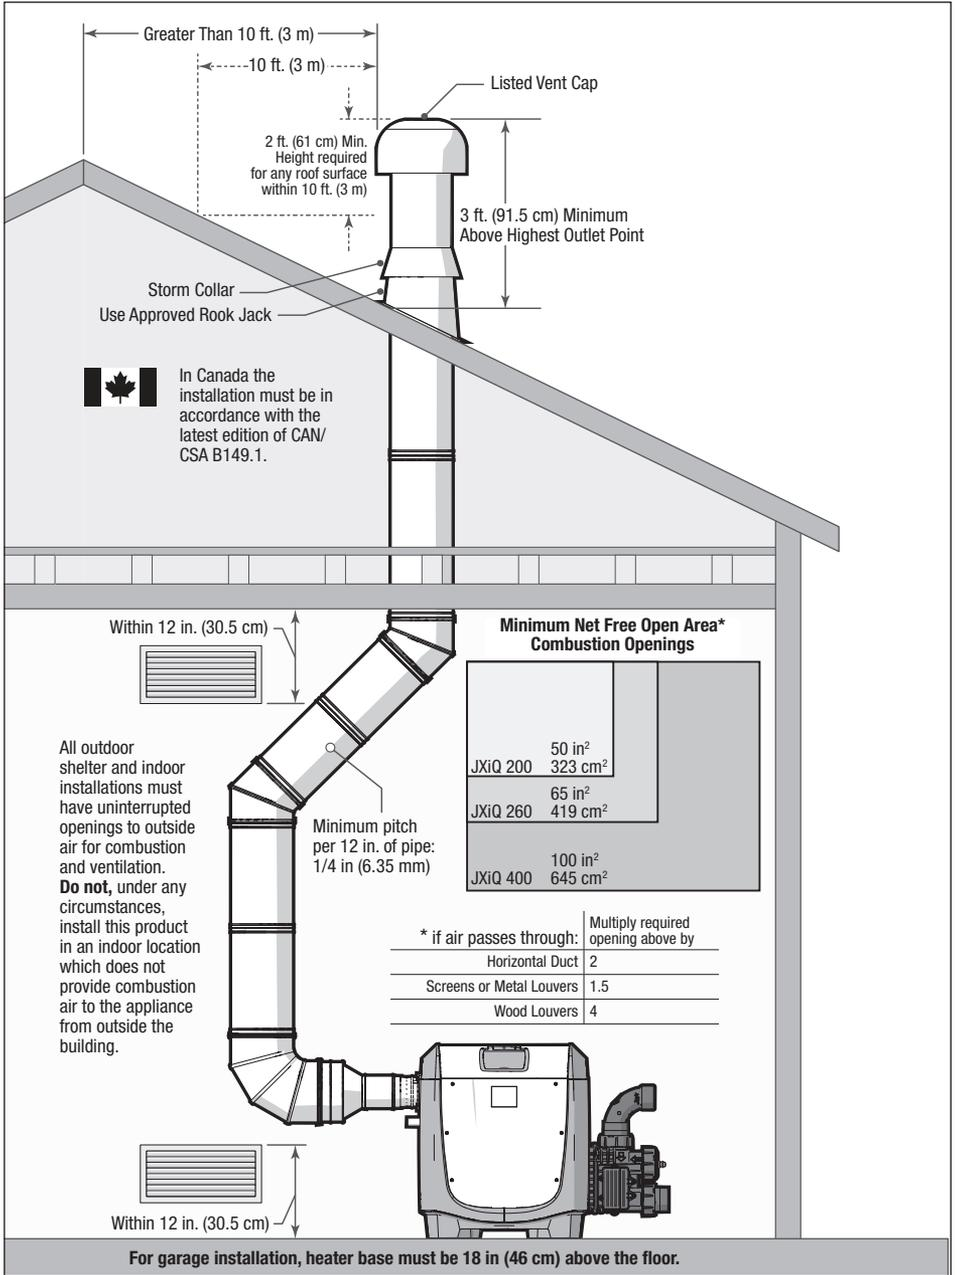

Figure 4. Indoor and Outdoor Shelter Installation
When combustion air is supplied directly through an outside wall, each opening should have a minimum free area of 1 square inch per 4,000 BTU/h (1.2 kW) input of the total input rating of all appliances in the enclosed area. If combustion air must pass through horizontal ducts, each opening should have a minimum free area of 1 square inch per 2,000 BTU/h (1.2 kW) input of the total input rating of all appliances in the enclosed area. Details can be found in *Figure 4*.
The “Minimum Net Free Open Area” information from *Figure 4* is not applicable in installations where exhaust fans or blowers of any type are used. Any equipment which exhausts air from the room where the heater is installed can deplete the combustion air supply which could lead to poor combustion, decreased heater efficiency and reliability and increased emissions. This could cause flue products to accumulate in the room. Additional air must be supplied to compensate for such exhaust. Consult a professional engineer to ensure that installations where exhaust fans or blowers are used are designed and installed in accordance with all applicable local and national installation codes.
- Horizontal runs must be sloped upwards away from the heater to a vent terminal at a minimum of 1/4 in per horizontal foot (2 cm/m). See *Figure 4*.
Category I: Appliance must be vented vertically and terminate at the roof. Vent must terminate at least 2 feet (610 mm) above any objects within 10 feet (3.05 m). Termination must pass through a properly installed and approved roof jack, a properly sized storm collar and an listed vent cap. See *Figure 4*.